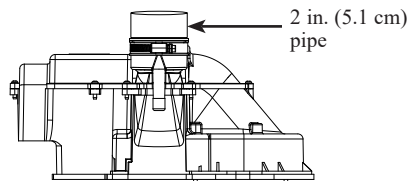

Figure 1
1. Connect the vent system piping to the blower assembly using the already installed 2 in. (5.1 cm) diameter rubber coupling and clamp. (See Figure 1).